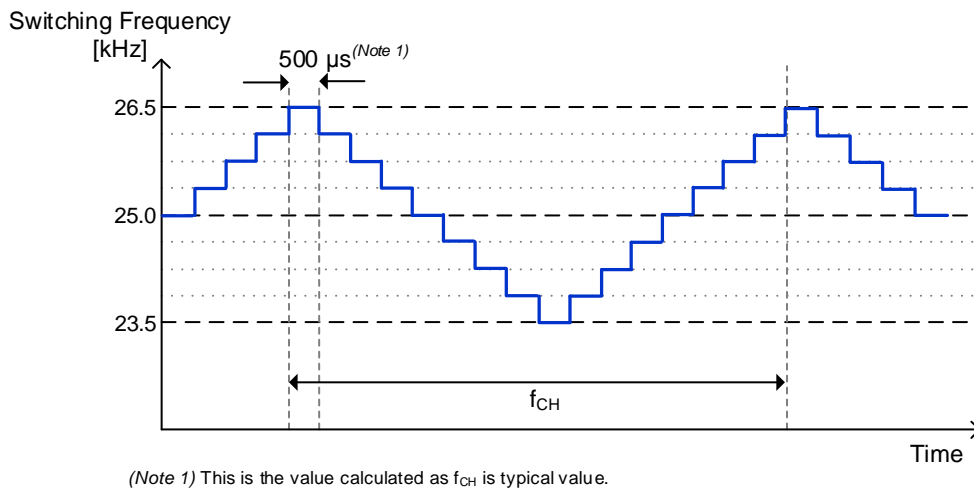

Figure 6. Frequency Hopping Function
- The switching frequency is fixed at  $f_{SW}$  by an internal oscillator. It has a built-in frequency hopping function and it makes the switching frequency fluctuate as shown in Figure 6. The hopping fluctuation cycle is  $f_{CH}$ .